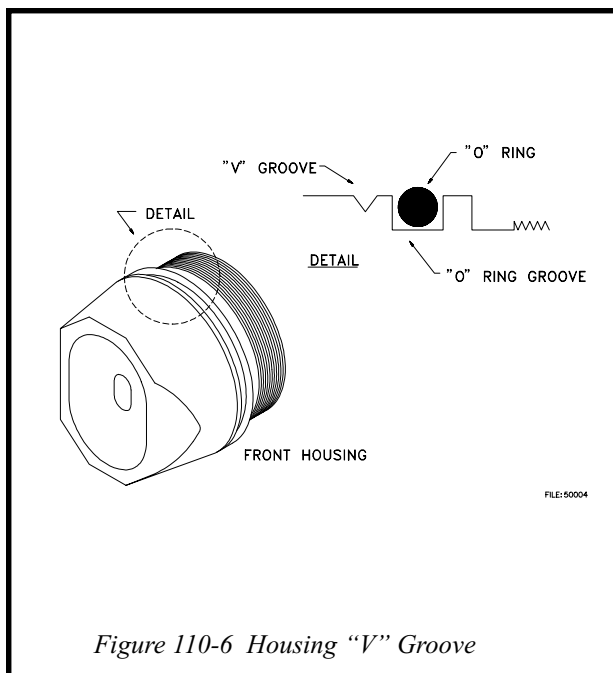
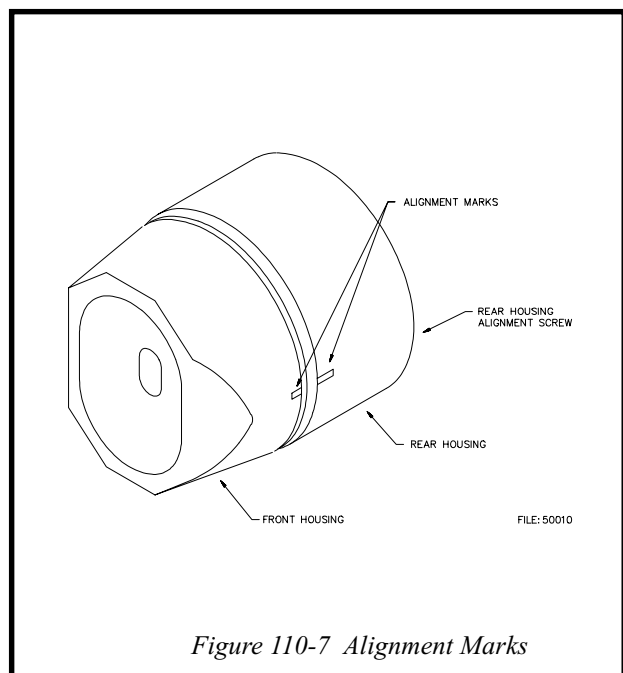

Figure 110-6 Housing “V” Groove
Figure 110-7 Alignment Marks
After five (5) complete turns, the O-Ring will begin to engage the Rear Housing. Take note of the alignment “V” groove (see figure 110-6) located on the Front Housing and alignment marks on both the Front and Rear Housings (figure 110-7). When the O-Ring disappears and the rear-most side of the alignment “V” groove has disappeared below the leading edge of the Rear Housing, the Front Cover is adequately engaged to insure an explosion proof and water resistant junction. It also indicates that the spring-loaded lamp contacts are engaging the top PC board. Continue to rotate the Front Housing until the alignment marks on the Front and Rear housings are aligned.